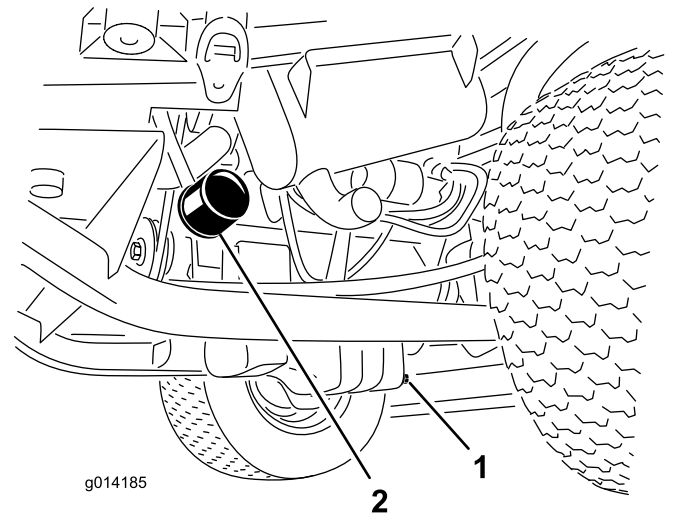

Figure 36
3. Remove the oil filter (Figure 36).
1. Remove the drain plug (Figure 36) and let the oil flow into a drain pan.